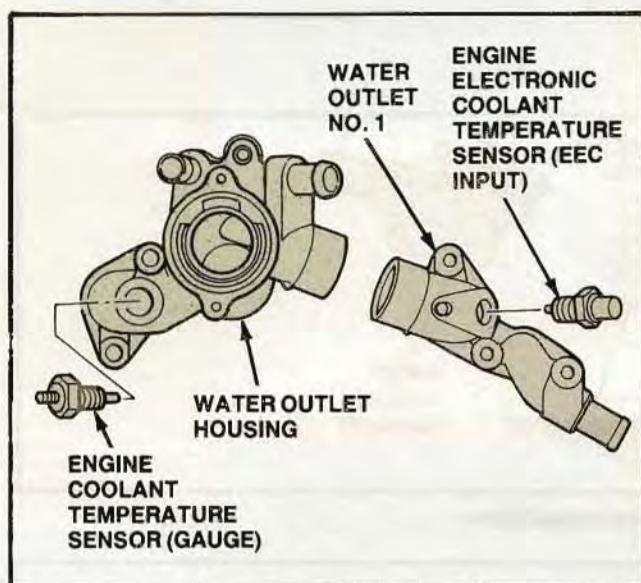

Figure 92. Water Outlet Housing Subassembly
1. Install the engine coolant temperature sensor to the water outlet housing and tighten to 17-24 N·m (12-18 lb-ft) (Fig. 92).